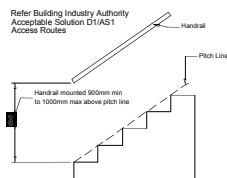

Fig1
- FIG 1 shows the requirements for mounting a handrail support bracket as per the Building Industry Authority Approved Document D1. Take a moment to familiarise yourself with these requirements for the bracket to be mounted so that the rail is between 900mm and 1000mm above the pitch line.